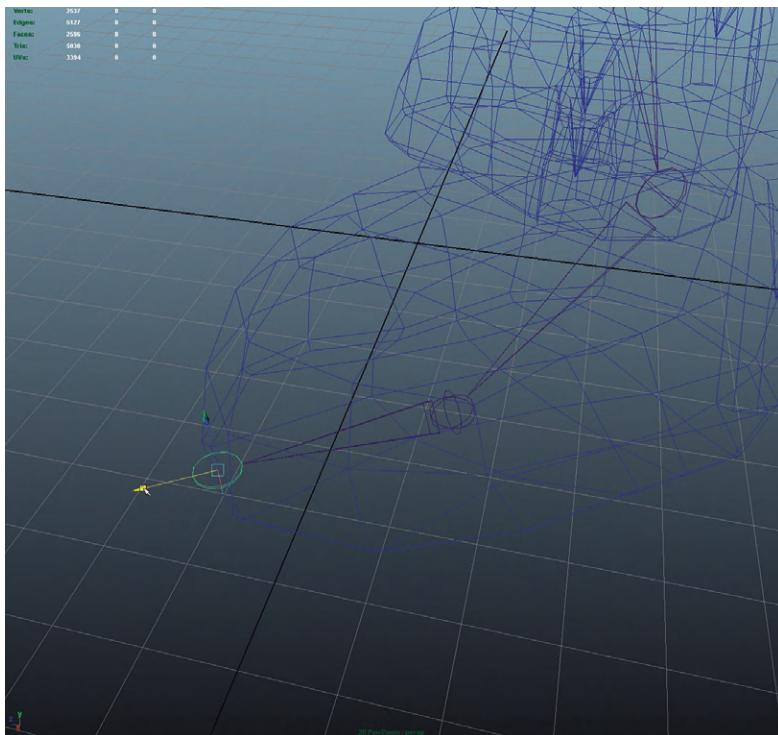

FIG 8.7 Using the altered Move Tool to move the L_Toe joint, so that it matches where the toe touches the ground.
Step 9: Adjust the L_Toe joint to reach the end of the toe. First, select the L_Toe joint. To move this toe and keep it in line with the ball, we'll adjust how the Move Tool works as well: double-click the Move Tool to open the Tool Settings windows. In the Move Settings section, change the Move Axis to Local. This will rotate the Move Tool handle, so that it is rotated as the joint chain is. Move the joint along the X axis, so that it sits right where the toe of the boot touches the ground (Fig. 8.7).